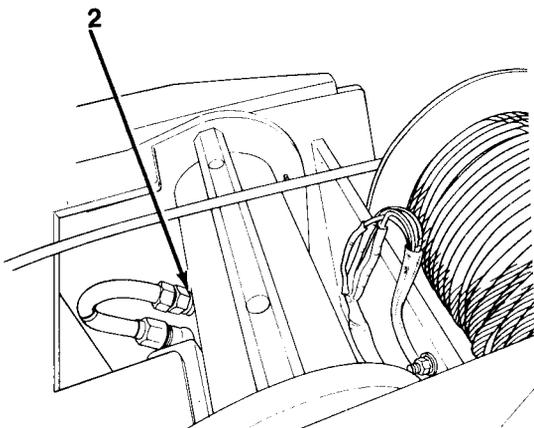

Figure 15-2
10. Disconnect two hydraulic hoses (2, Figure 15-2) from boom extend cylinder.